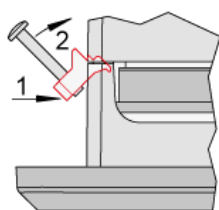

Fig. 15: Attach clamp inserts
5. ➤ Re-install the clamp inserts by tilting the insert to a 45° angle. (Fig. 15/1) Insert the nose of the insert into the slot on the side of the housing. (Fig. 15/2) Raise the clamp insert so that it is parallel to the control panel.